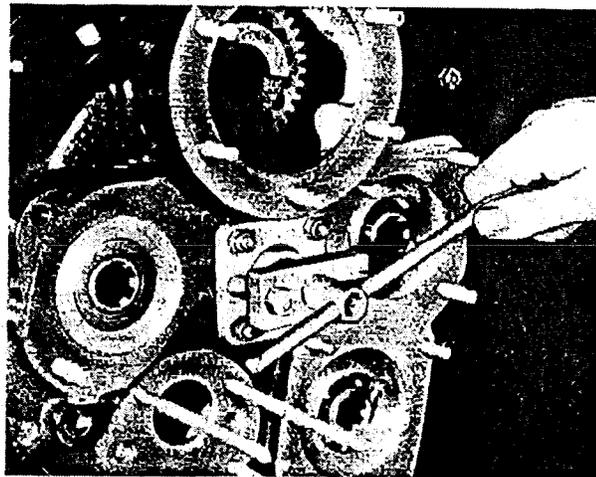

Figure 5 - Pulling Rear Case
(2) When all the nuts are removed, tap the rear case with a rubber mallet and remove case.
**NOTE:** The rear case can normally be removed by hand. If any difficulty is experienced, remove the case with Puller (Tool No. T-605-E). Refer to Figure 5.
(1) Bend tabs of crankshaft cluster gear lock washer back so that lock-nut can be removed.
(2) After tabs are bent back, remove lock-